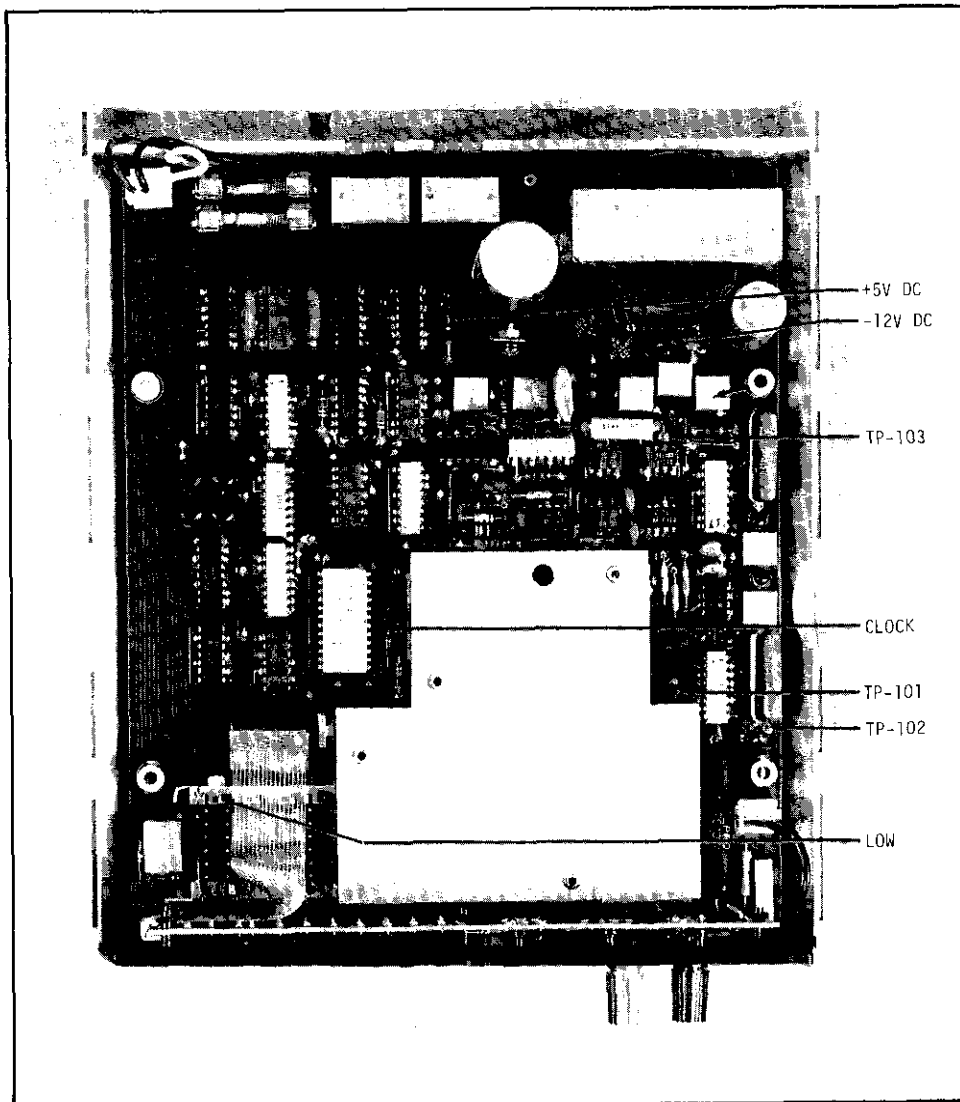

FIGURE 24. Location of Test Points.
3. +5V Regulated Supply. Measure the voltage at +5V at resistor R131 as shown in Figure 24. Use circuit low on switch hardware as common. The voltage should be within the range from +4.75V to +5.25V.
4. -12V Regulated Supply. Measure the voltage at -12V as shown in Figure 24. Use circuit low on switch hardware as common. The voltage should be within the range from -11.4V to -12.6 volts.
2) LSI module improperly installed.	Check QA212 for proper installation. Make certain all pins are making contact (pins should not be bent). Dot indicates pin 1. See Figure 24.